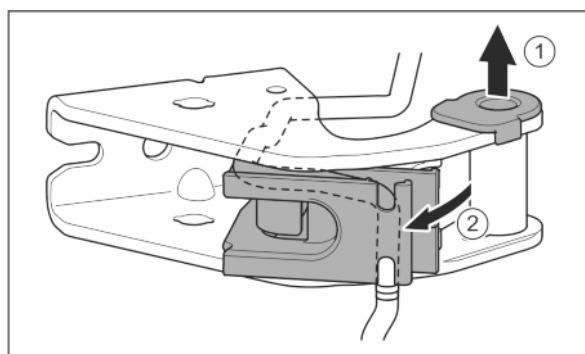

Fig. 23
- Pull the bearing bush out of the guide. *Fig. 23 (1)*
- Swing the cable holder out. *Fig. 23 (2)*